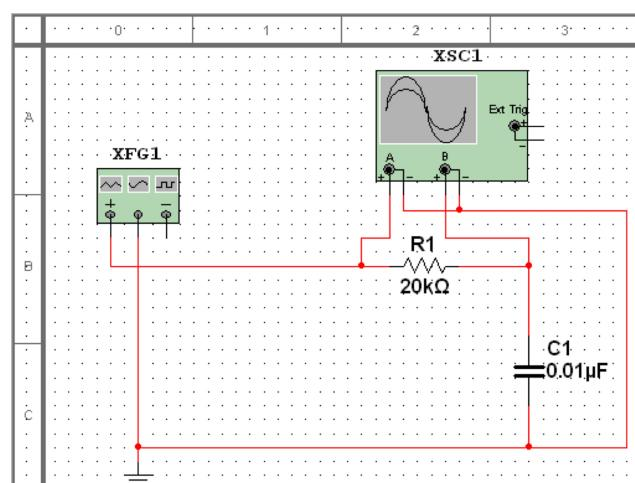

Figure 6: Square Wave Source
3. **Simulation→Instruments→Function Generator** and place it in your circuit (see Figure 6).
4. Connect the function generator as shown in Figure 6: the + terminal goes to the resistor and the common (middle) terminal goes to ground.